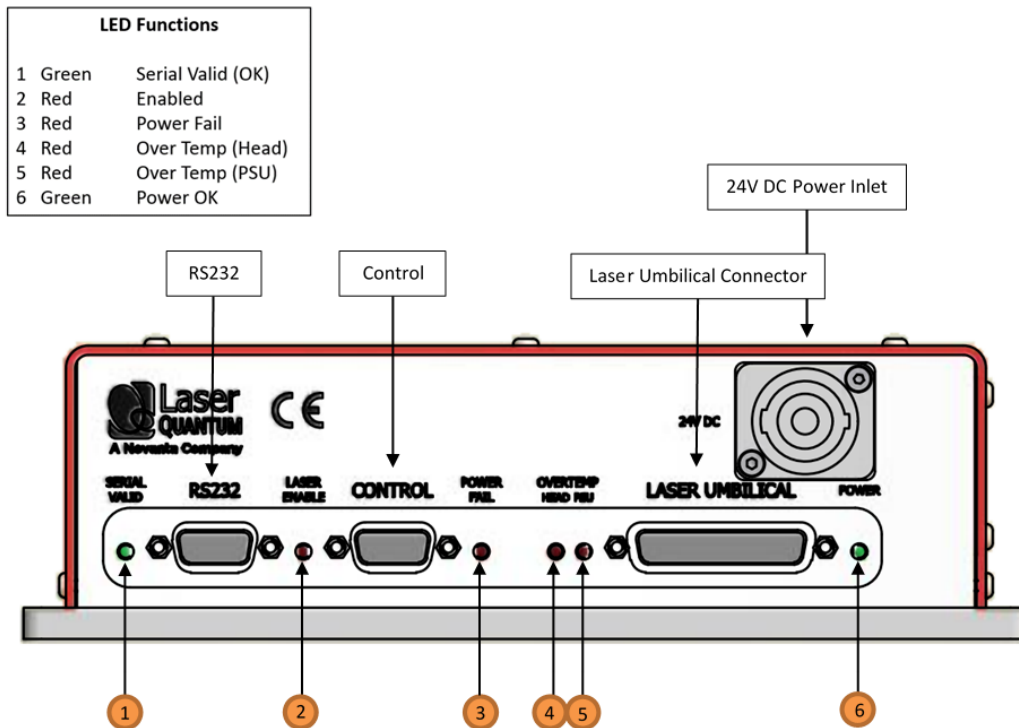

Figure 4-2
- 4 The analogue Control port (see Figure 4.2) is multi-functional as it has connections for Interlock, Enable Switch and Laser Power Control/Modulation. The Interlock must be closed to allow the laser to operate and this can be achieved using the supplied green-spot Interlock Dongle
The **MPC32** can be operated directly via the control port (see Figure 4.2) by applying 0 to 5 V in accordance with the diagrams in this section.